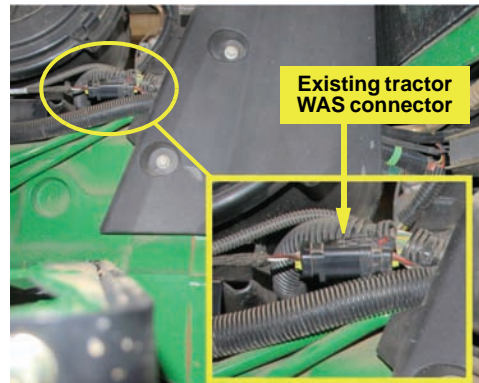

Figure 2c: Existing WAS connector - see inset
- d. Locate the factory installed WAS wire and connector on the left side of the tractor near the air filter housing. Disconnect the wire connectors being careful not to damage them (Figure 2c with inset).